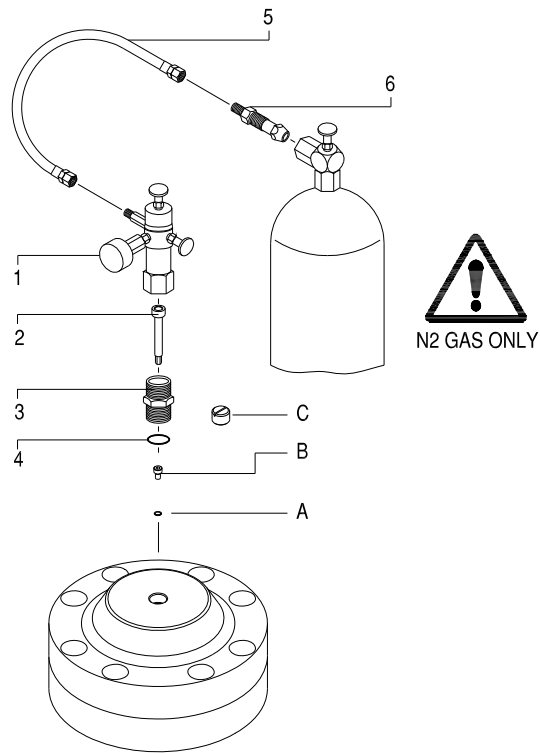

Fig. 12-1 N₂ Gas Charge Tool
After membrane replacement, the accumulator must be pre-charged with nitrogen (N₂) gas. Accurate charging to the specified pressure is important for proper performance with long-term reliability. This is accomplished with the charging tool (Fig. 12-1) and a commercially available nitrogen bottle.
1. Charge Kit 570071 (Fig. 12-1)
12.3 Connect the Charge Valve (Fig. 12-1)